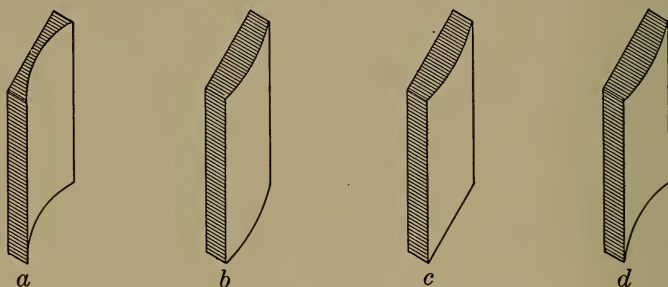

FIGURE 80. — PECULIARLY SHAPED MIRRORS.
4. *Peculiarly Shaped Mirrors.* There are many peculiarly shaped mirrors, such as are found in “hilarity halls,” etc. Figure 80 shows a few of these. Due to the peculiar shapes, the images are distorted and afford amusement for the patrons.